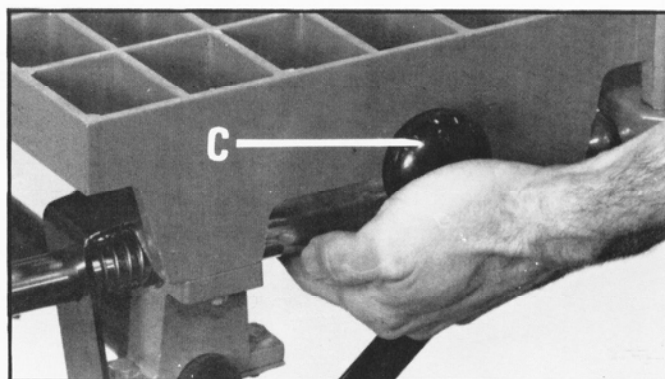

Fig. 21
To clamp the fence halves to the table, push in on fence locking hand knob (C), as shown in Fig. 21, making sure it is all the way in against the table.